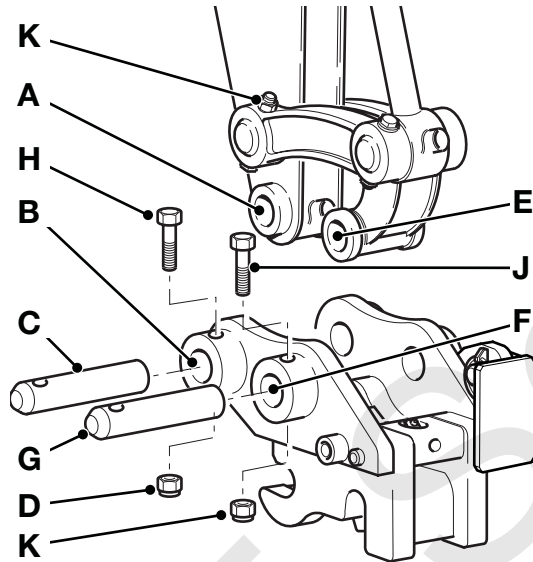

Fig 105.
- 1 Before the Quickhitch is installed, make sure that the tipping lever locking bolt assembly is attached with the nut at position **K**. → Fig 105. \(□ 267\).